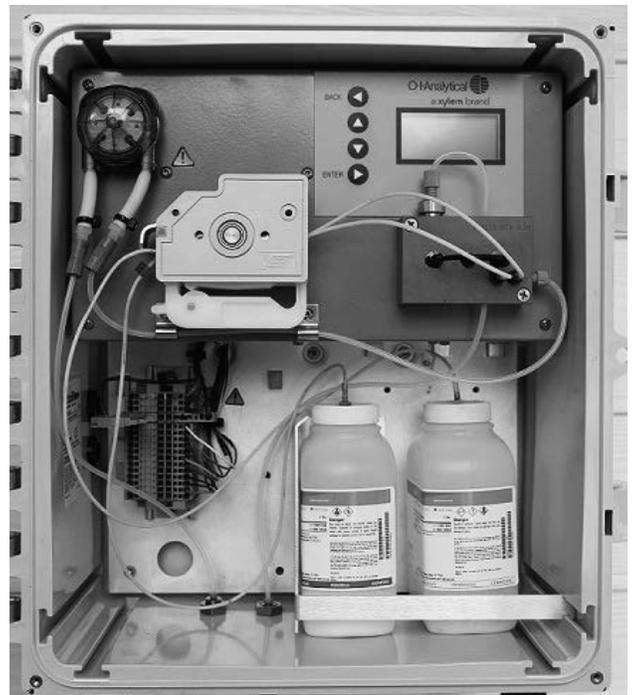

Figure 6.1 Positioning of sample pump tube in sample pump
2. Remove the cover of the sample pump. Disconnect the sample inlet and waste lines at the barb fittings. Retain the barb fittings for transfer to the new sample pump tube. See **Figure 6.1** for installation of the new sample pump tube.